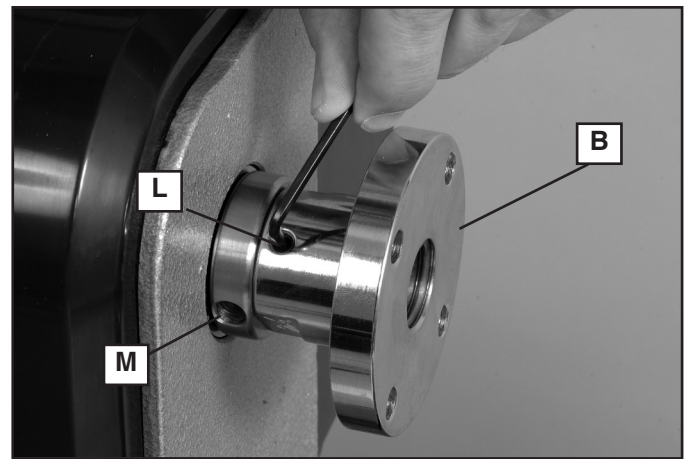
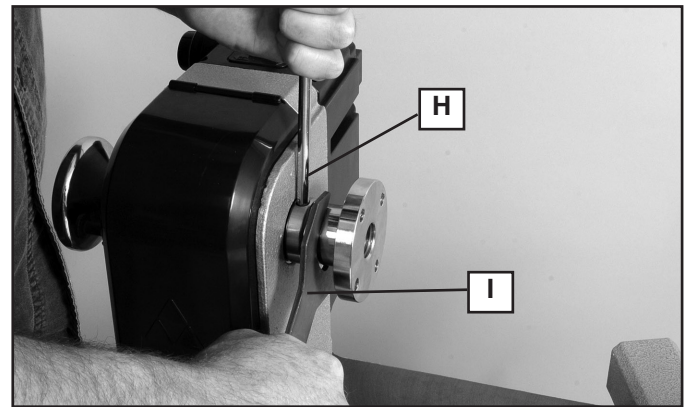
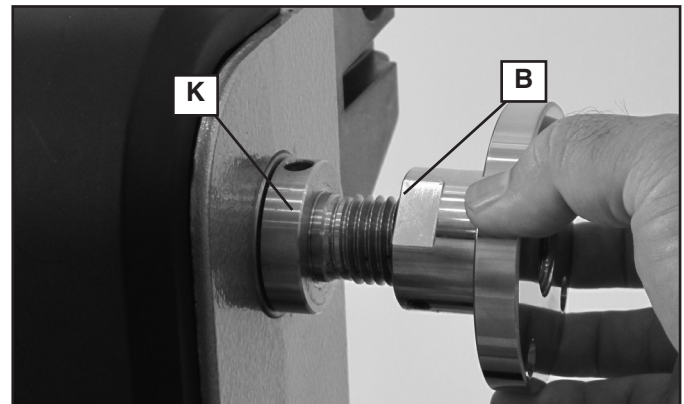

Fig. 2
Fig. 3
Fig. 4
- When using the included 3" (76 mm) faceplate (B) Fig. 2, do not mount pieces larger than 6" (152 mm) in diameter and up to 6" (152 mm) in length. For mounting larger pieces, be sure to use an appropriately sized faceplate.
⚠ WARNING: To reduce the risk of injury, when using the included 3" (76 mm) faceplate (B) Fig. 2, do not mount pieces larger than 6" (152 mm) in diameter and up to 6" (152 mm) in length. For mounting larger pieces, be sure to use an appropriately sized faceplate.
To remove the faceplate, use the included 3 mm hex wrench to unlock the set screws (L) at least two full turns. Place knockout bar (H) Fig. 3 in hole (M) Fig. 2 and place faceplate wrench (I) Fig. 3 on faceplate shoulder flats (as shown in Fig. 3) and turn wrench to loosen faceplate. Once loose, the faceplate (B) Fig. 2 can be unscrewed.
⚠ WARNING: FOR THE DELTA® MODEL 46-460 MIDILATHE ONLY: To reduce the risk of injury, if turning in reverse, be sure to tighten the set screws (L) Fig. 2 securely when replacing the faceplate.
To re-attach faceplate (B) Fig. 4, screw it back on to the spindle nose (K) and tighten securely using the knockout bar and wrench as shown in figure 3. Replace set screws (L) Fig. 2 if removed. Tighten set screws securely.